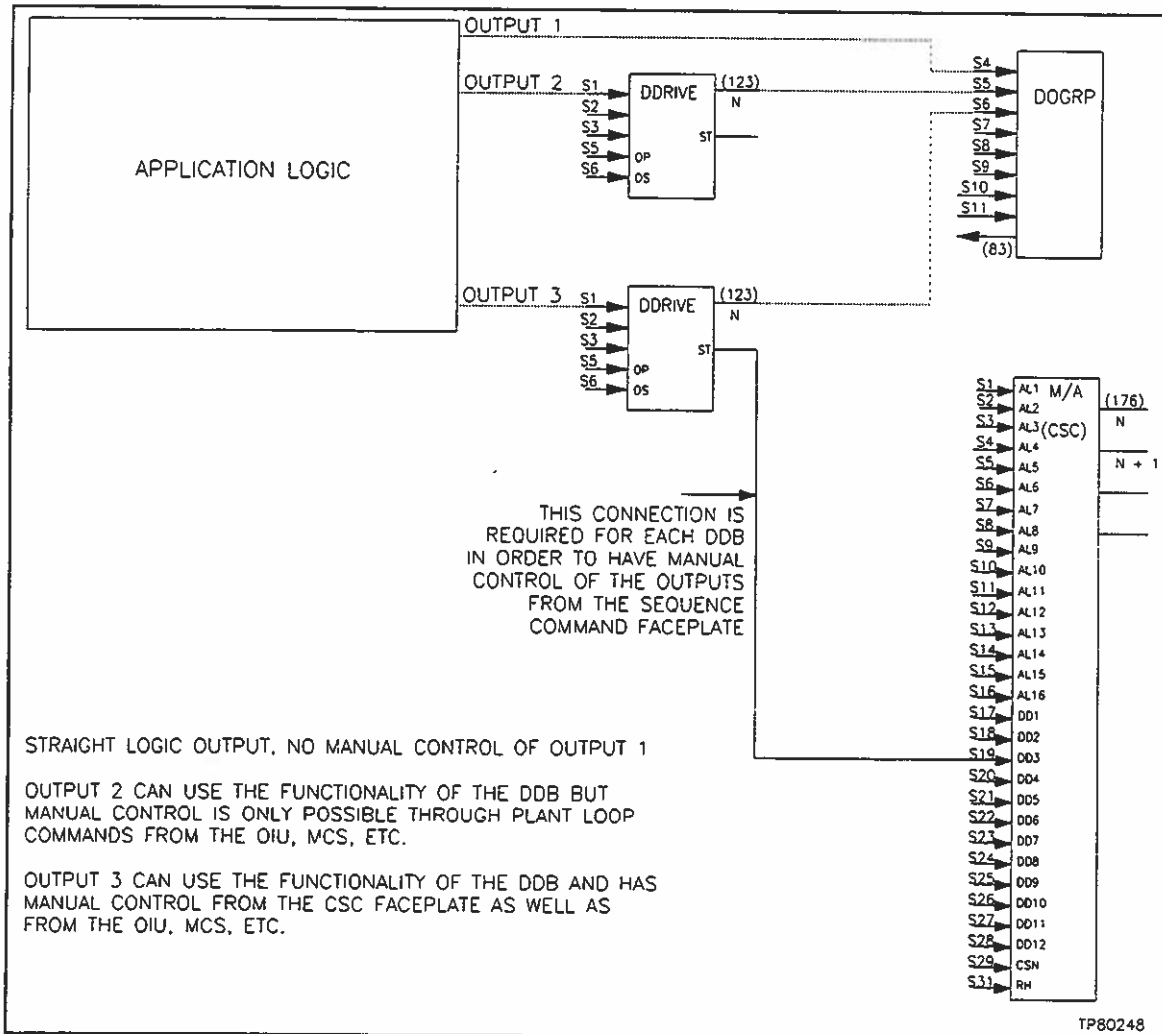

Figure 3-5. Digital Output Control Options
2. It also allows the station to monitor the output's status and therefore provide alarm indication for each associated output. Reference Figure 3-5 for examples of different control options for the digital outputs.